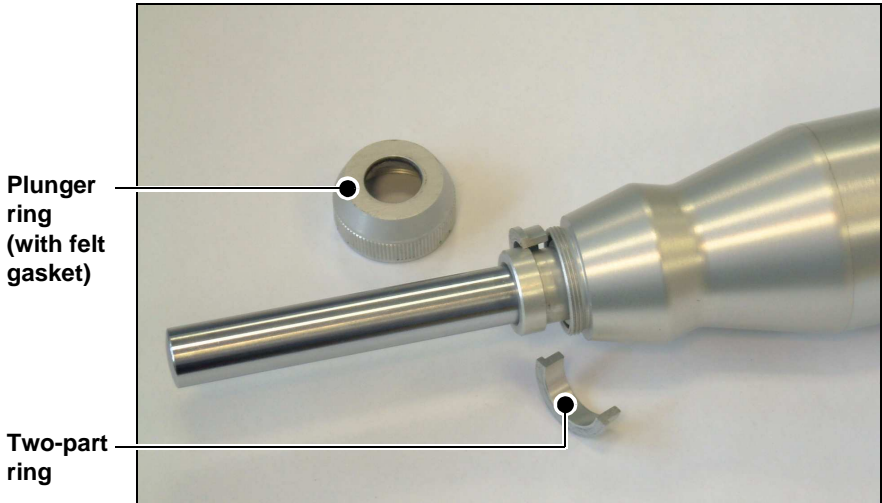

Figure 5. Removing plunger rings
2. Referring to Figure 5, unscrew the plunger ring with its felt gasket and remove the two-part ring.